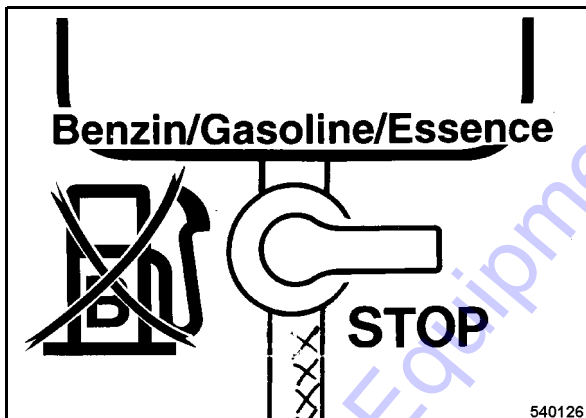

Fig. 48
- Set the fuel valve (Fig. 48) to "STOP" position (closed).